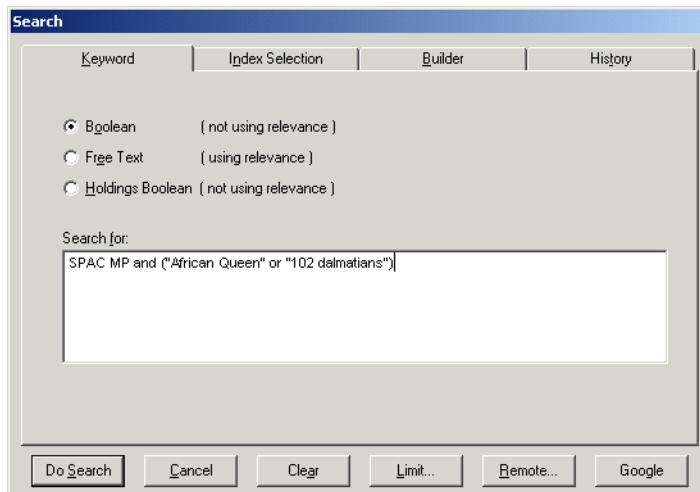

Figure 2-65. MFHD-Bibliographic Combined Keyword Search - command line example
Example: The following is an example of a command-line search for "102 Dalmatians" or "African Queen" in the motion picture collection where SPAC is the Voyager code for the indexed 901 \$a holdings field and MP is the code representing the motion picture collection stored in the 901 \$a . See Figure 2-65 and Figure 2-66.
At the bottom of the window are buttons for "OK", "Cancel", "Search", "Select All", and "Clear All". A status bar at the bottom left says "2 Records Found" and "Search: Command=SPAC MP and ("African Queen" or "102 dalmatians")". A large yellow arrow points from the "Titles Index" window towards the search input field in Figure 2-65.
The SPAC code may be used in a command-line search to identify the index to be searched. See Figure 2-65.
- And, or, or not boolean logic may be used to separate each index and term/phrase combination in a command line search as in Figure 2-65